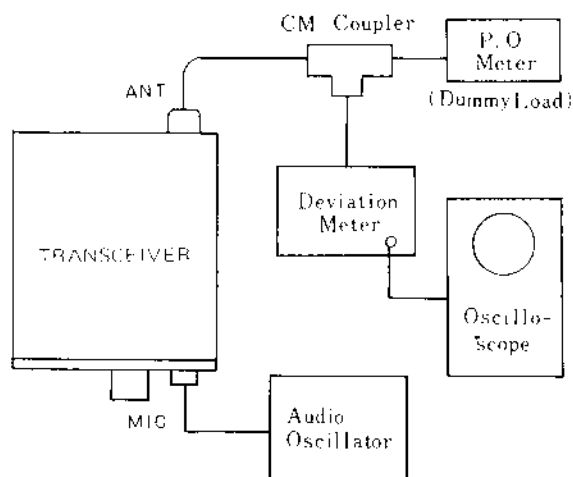

Figure 5
- a) Refer to Fig. 5, and set up the transceiver and test equipment as shown.